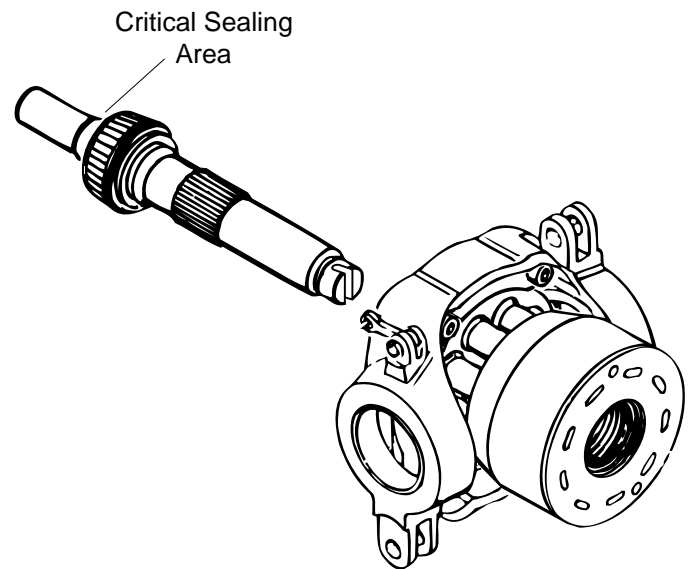

Figure 12
**Caution:** Do not damage the sealing area of the shaft, see figure 12. The shaft sealing area is between the bearing journal and the keyway or splined end of the shaft. This area is extremely critical.